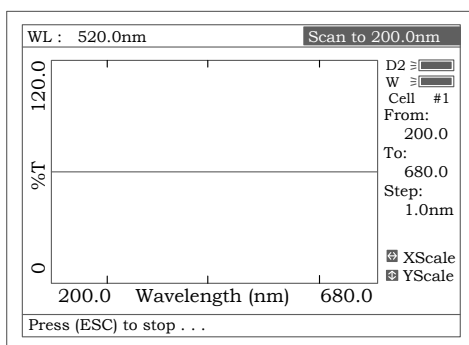

Fig 44
- Put the blank cuvette into the Reference Light Path and Main Light Path, press **【ZERO】** to scan the base line (Fig 44). Press the key **【ESC/STOP】** to stop scanning;